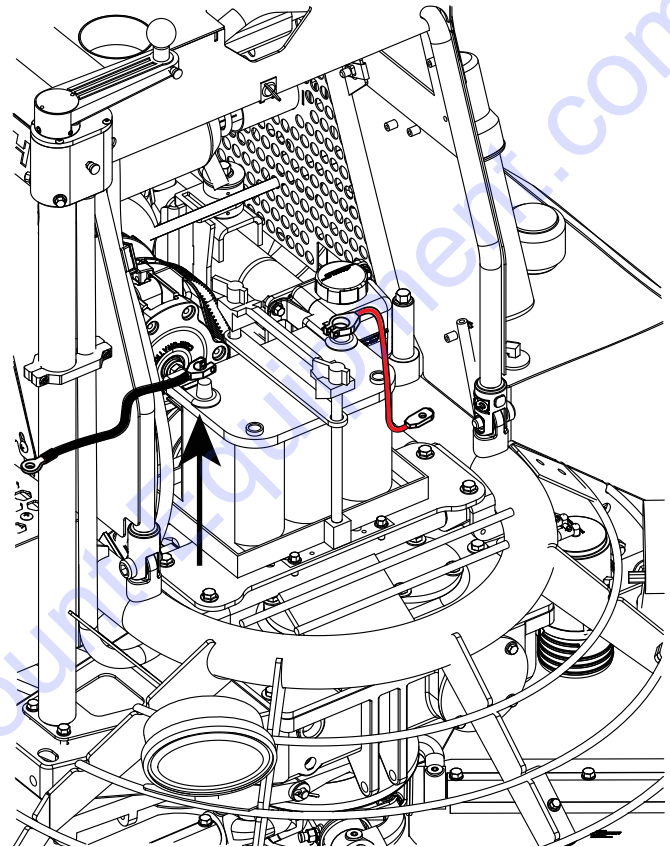

Figure 2. Disconnect Battery Cable
1. Remove left side guard to access battery. Disconnect negative cable (**BLACK**) from the negative terminal on the battery (Figure 2).